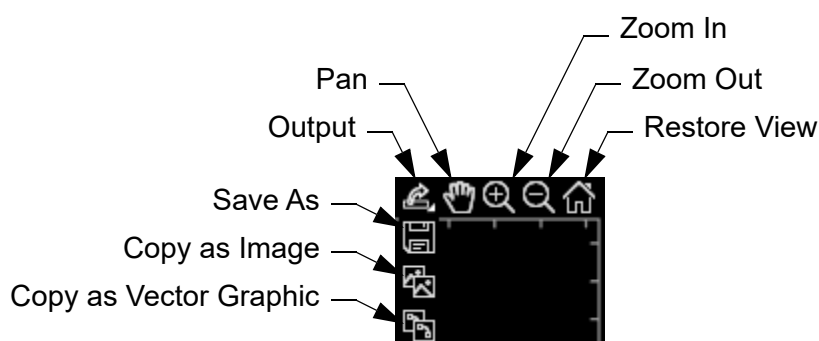

Figure 2-20: Zoom Controls
*The **Zoom** menu item is checked and the zoom controls, which are shown in Figure 2-20, are displayed on the upper-right corner of the plot area in the scope display.*